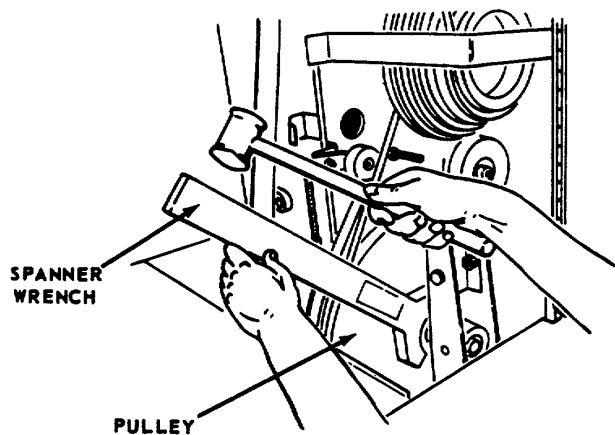

FIGURE 123
- (g) See Figure 123. Insert Spanner Wrench into holes provided in Pulley and hammer the Wrench as shown to loosen Pulley. Unscrew Pulley completely.